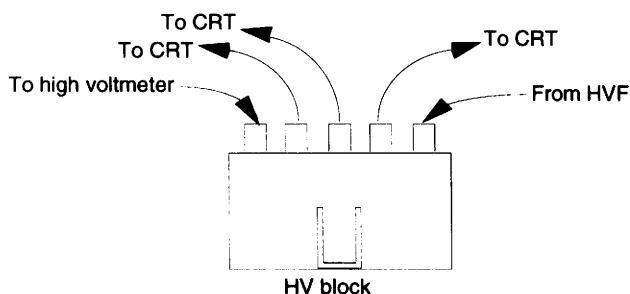

Fig. 1
- (1) Open the DE bracket, and connect the cable from the high voltmeter to the chassis (two GNDs) and HV block. (See Fig.1.)